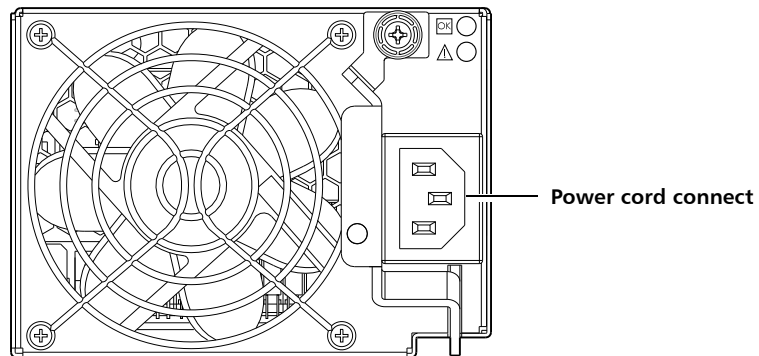
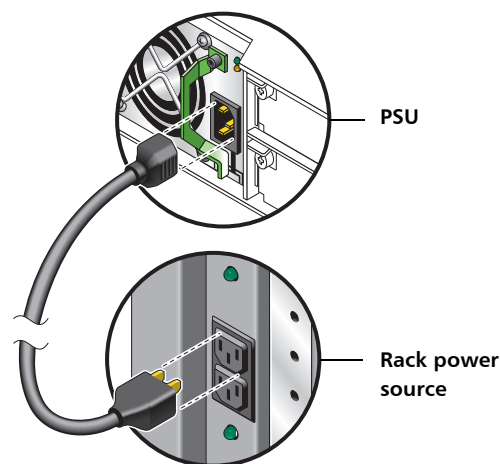
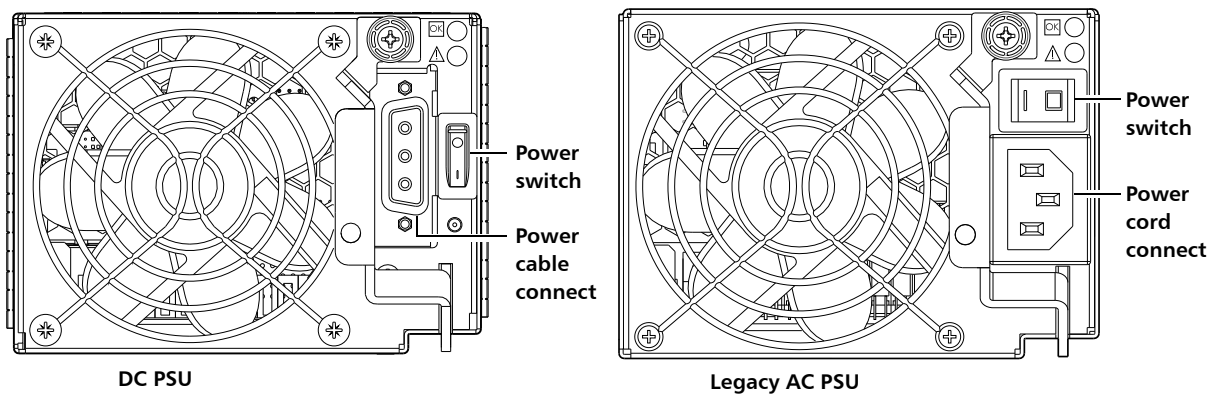

Figure 11 AC PSU
Figure 12 AC power cord
Figure 13 DC and AC PSUs with power switch
- 1 Plug the power cord into the power cord connector on the rear of the drive enclosure. Plug the other end of the power cord into the rack power source (see Figure 11 and Figure 12). Wait several seconds to allow the disks to spin up.
- 2 Plug the power cord into the power cord connector on the rear of the controller enclosure. Plug the other end of the power cord into the rack power source (see Figure 11 and Figure 12).
See Figure 12 and Figure 13 (right) when performing the following steps:
See Figure 14 and Figure 13 (left) when performing the following steps: